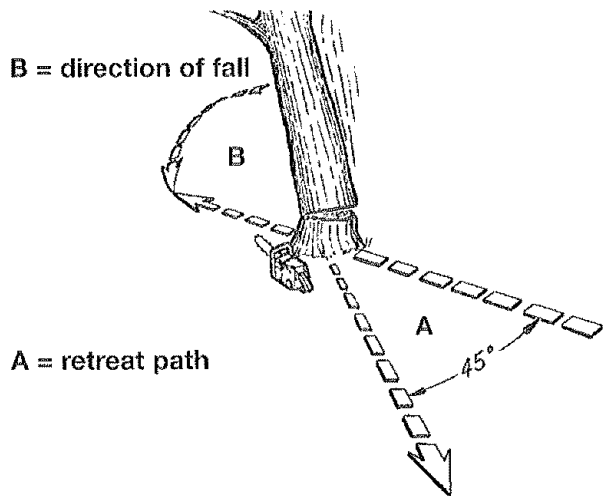

Fig. 12
**WARNING:** A retreat path (A) should be planned and cleared as necessary before cuts are started. The retreat path should extend back and diagonally to the rear of the expected line of fall, as illustrated in Fig. 12.
**WARNING:** As the felling cut gets close to the hinge, the tree should begin to fall. When tree begins to fall, remove saw from cut, stop engine, put chain saw down, and leave along retreat path (A). (Fig. 12)